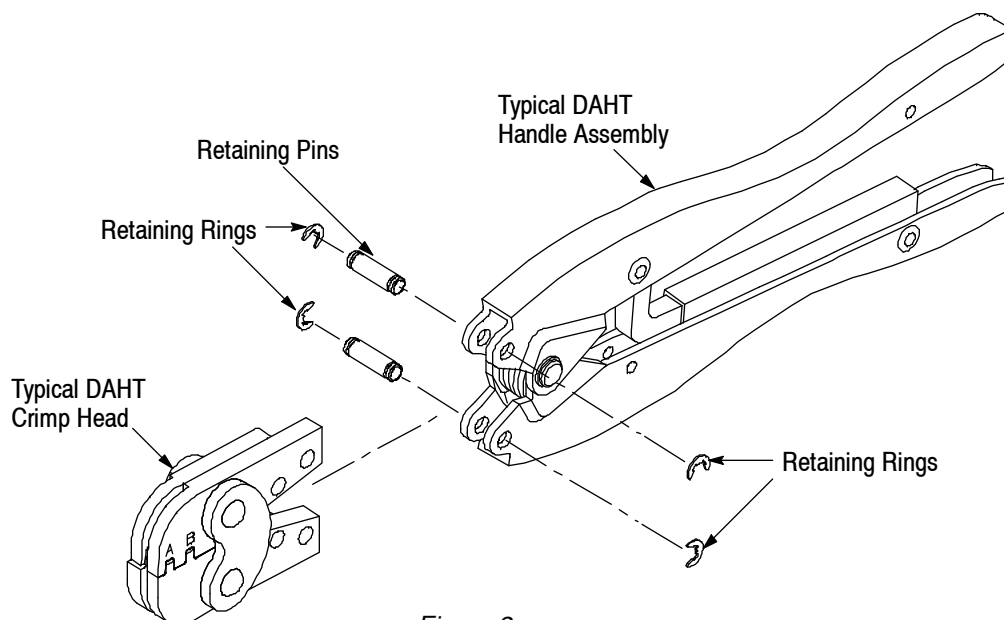

Figure 2
1. Remove the two retaining rings from one side of the hand tool body and push the retaining pins, along with the two remaining retaining rings, through the opposite side of the tool body as shown in Figure 2.